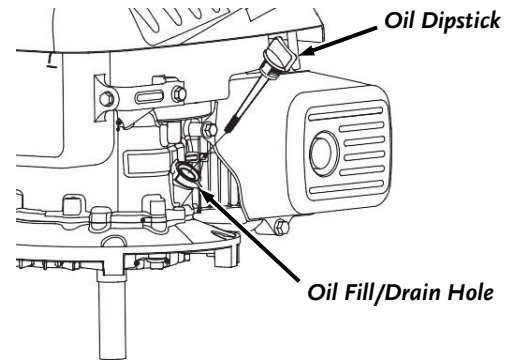

Figure 3
- 1) Remove the dipstick (*Figure 3*) and clean it with a rag.
- 2) Reinsert the dipstick into the Oil Fill hole. Remove the dipstick and check Oil level (*Figure 3*).
- 1) Remove the Oil Dipstick (*Figure 3*)
- 1) Remove the Oil Dipstick (**Figure 3**)